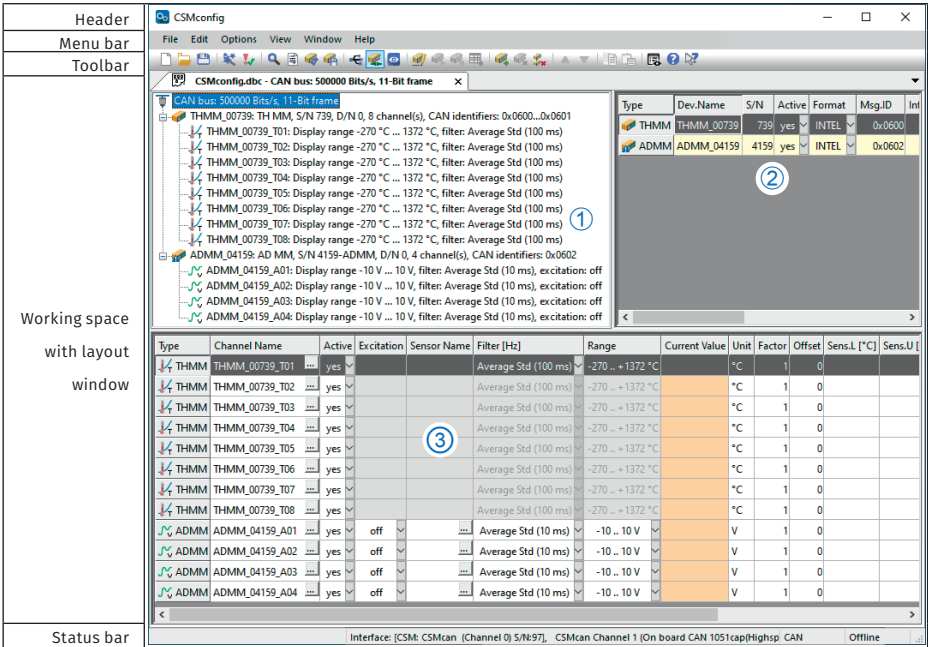

Fig. 5-2: CSMconfig User Interface
- ▶ **Tree view** (Fig. 5-2, ①)
- ▶ **Device list** (Fig. 5-2, ②)
- ▶ **Channel list** (Fig. 5-2, ③)